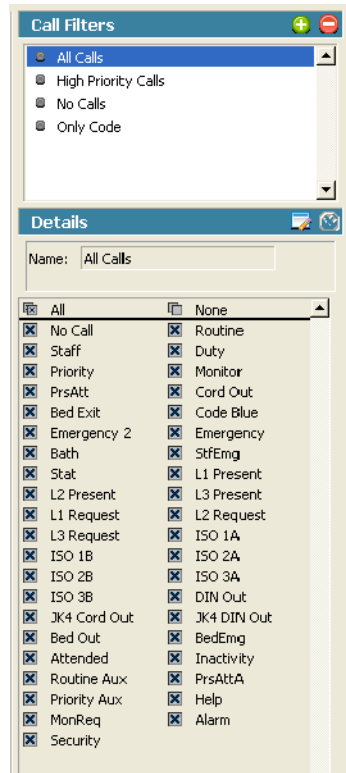

FIGURE 6. Simple Window Panel
- Check Boxes and Radio Buttons are used to indicate user options. (For example, in Figure 6, if only the L3 Staff type check box is enabled, only staff given the L3 designation will receive a page.) Check boxes turn an option on or off, Radio Buttons provide a combination of choices for an option.